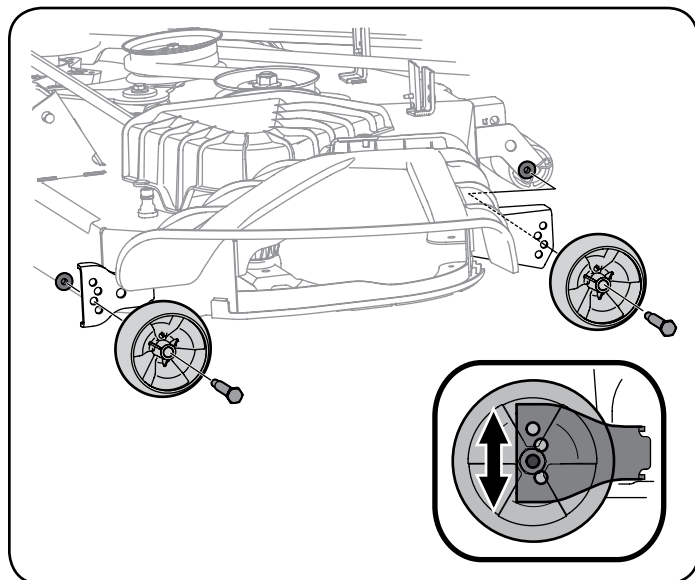

Figure 9
- b. Remove the front and rear deck wheels by removing the flange lock nuts and shoulder bolts that secure them to the deck. See "Figure 9".